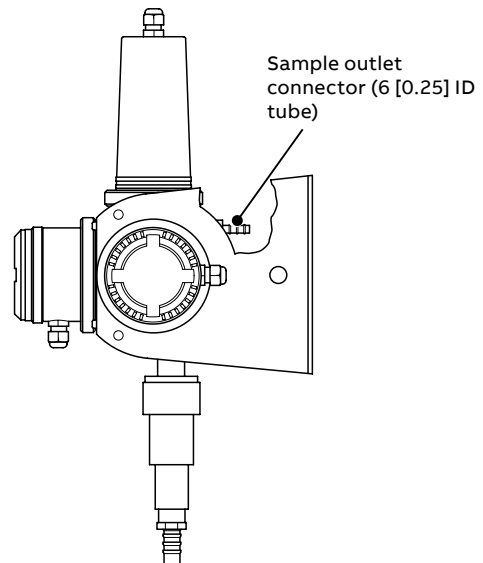

Figure 4 4690 Series – sample outlet connector location
- 3 Connect the sample outlet tube. Refer to Figure 4.